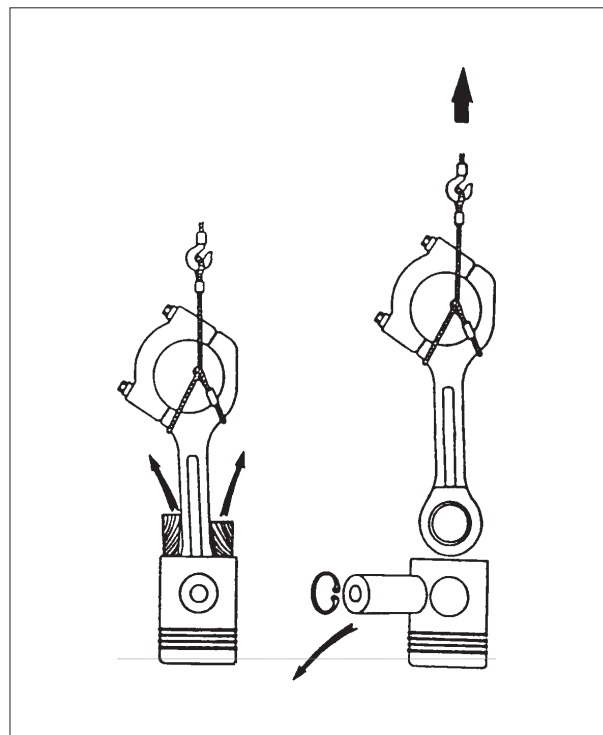

Fig 2. Removal of Connecting Rod and Piston Pin.
4) Place the piston and connecting rod assembly in upright position resting on the top face of the piston crown, *see fig 2.*
5) Place a wire around the big-end of the connecting rod. Attach a tackle and tighten the wire rope, *see fig 2.*